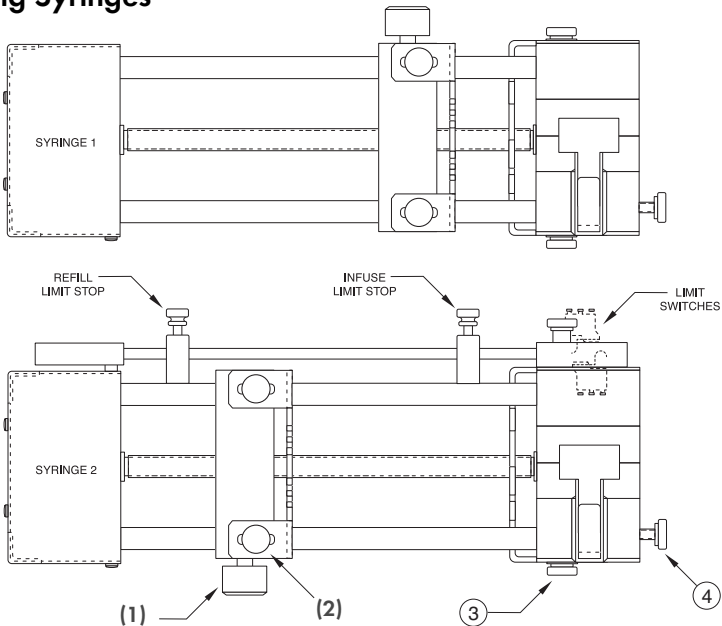

Figure 1. Syringe Loading
- 2) Loosen the screws on the syringe block and pusher block to free the retaining brackets **(2 and 3, Figure 1)**